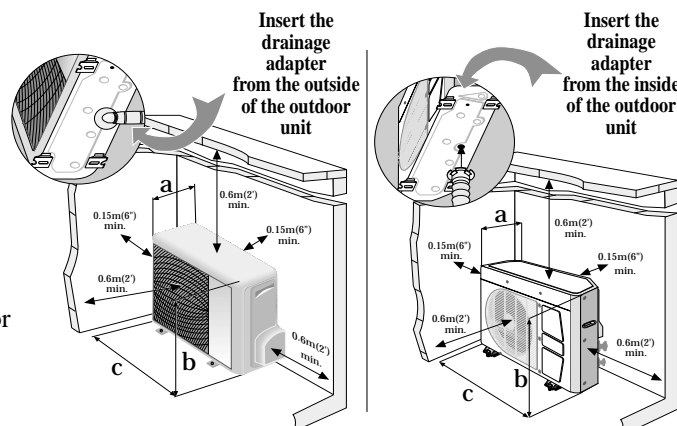

Fig. 1
- Make sure to leave sufficient space around the unit. See Figure 1 for minimum required distances between the unit and nearby walls.
- In heating mode, water can form in the condenser. A drainage hose may be attached to the unit. Use the adapter shown Figure 1.